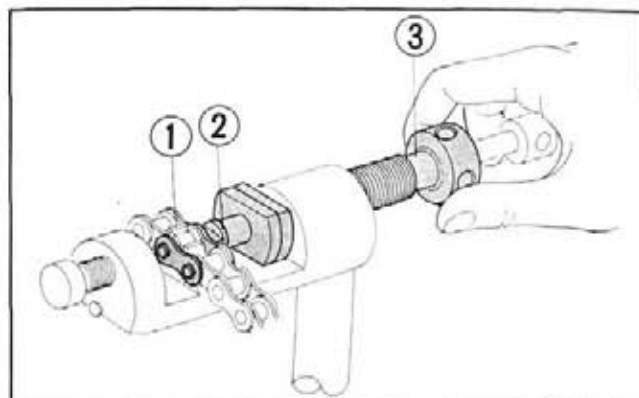

Fig. 20-42 ① Chain holder
1. Position drive chain joint portion to be staked on chain holder in place and also place wedge holder between chain holder and pressure holder as shown in Fig. 20-42. So that tip of wedge is in line with center of joint pin. By tightening finger-tight, move forward pressure bolt A until it stops.